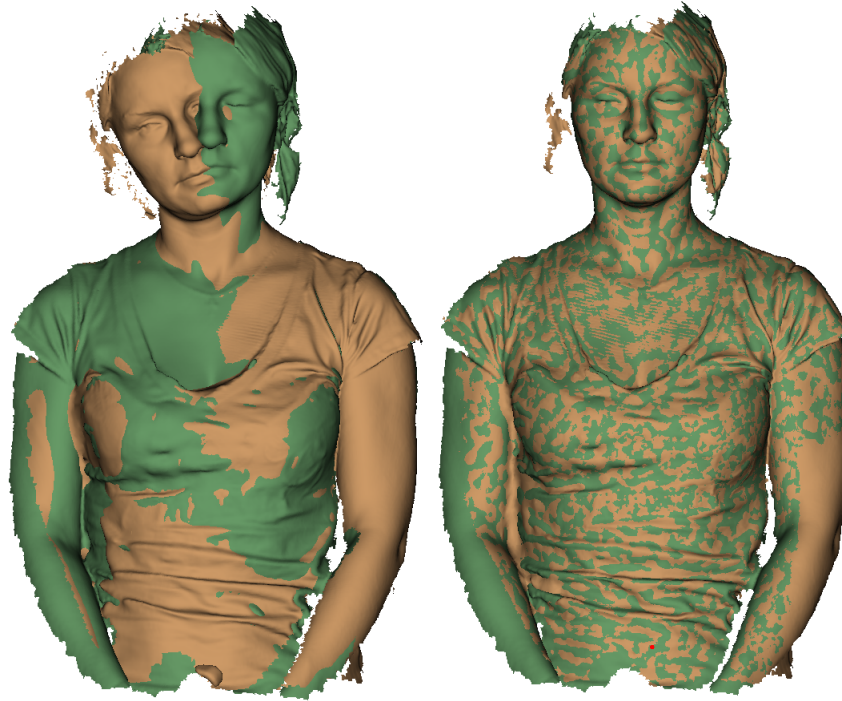

Figure 116: Two models after Best Fit (left) and nonrigid alignment (right).
While Best Fit (rigid) alignment can only perform such transformations as translation and rotation, the nonrigid algorithm can deform 3D data. This algorithm is intended to process so-called nonrigid objects: objects whose shapes have changed during the scan (e.g., models of animals or humans—see Figure 116, left). Keep in mind that the surface Artec Studio produces as a result of the deformation may differ from the surface of the actual object.
5. Click *Align...* The algorithm will align models by deforming one of the model (see Figure 116, right). If you are dissatisfied with the alignment results, click  and specify additional point pairs, or reposition the current pairs.